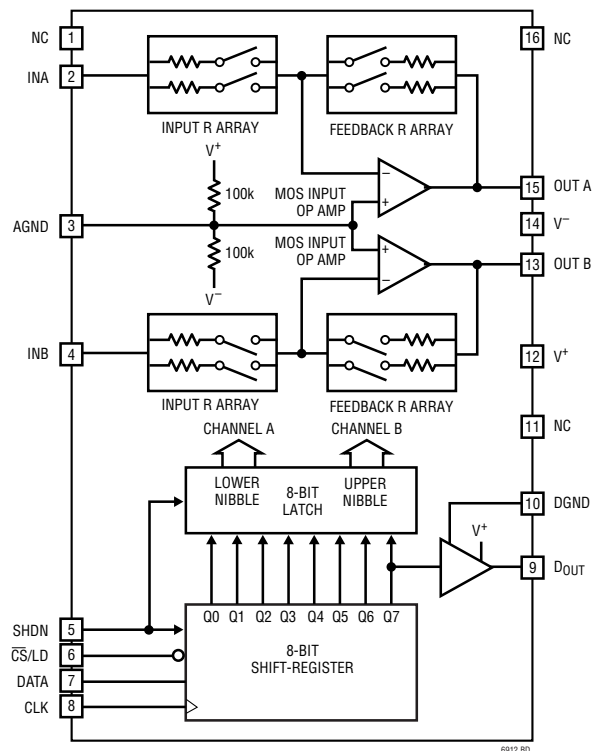
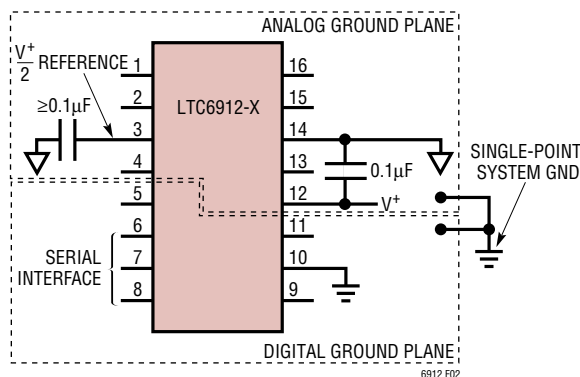
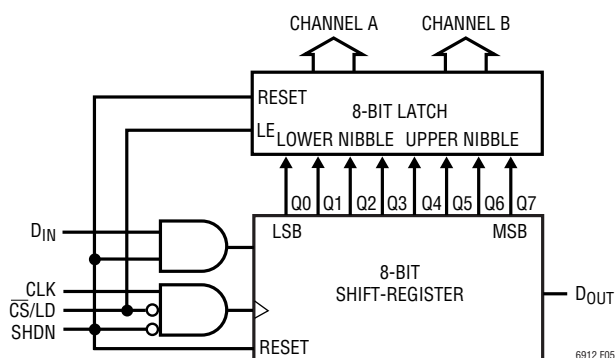

Figure 1. GN-16 Block Diagram
Figure 2. Single Supply Ground Plane Connection
Figure 5. Serial Digital Interface Block Diagram
**INA, INB:** Analog Inputs. The input signal to the A channel amplifier of the LTC6912-X is the voltage difference between the INA pin and AGND pin. Likewise, the input signal to the B channel amplifier of the LTC6912-X is the voltage difference between the INB pin and AGND pin. The INA (or INB) pin connects internally to a digitally controlled resistance whose other end is a current summing point at the same potential as the AGND pin (Figure 1). At unity gain, the value of this input resistance is approximately 10kΩ and the INA (or INB) pin voltage range is rail-to-rail ( $V^+$  to  $V^-$ ). At gain settings above unity, the input resistance falls. The linear input range at INA and INB also falls inversely proportional to the programmed gain. Tables 1 and 2 summarize this behavior. The higher gains are designed to boost lower level signals with good noise performance. In the “zero” gain state (state = 0), or in software shutdown (state = 8) analog switches disconnect the INA or INB pin internally and this pin presents a very high input resistance. In the “zero” gain state (state = 0), the input may vary from rail to rail but the output is insensitive to it and is forced to the AGND potential. Circuitry driving the INA and INB pins must consider the LTC6912-X’s input resistance, its process variance, and the variation of this resistance from gain setting to gain setting. Signal sources with significant output resistance may introduce a gain error as the source’s output resistance and the LTC6912-X’s input resistance forms a voltage divider. This is especially true at higher gain settings where the input resistance is the lowest.
**AGND:** Analog Ground. The AGND pin is at the midpoint of an internal resistive voltage divider, developing a potential halfway between the  $V^+$  and  $V^-$  pins. In normal operation, the AGND pin has an equivalent input resistance of nominally 50k (Figure 1). In order to reduce the quiescent supply current in hardware shutdown (SHDN pin pulled to  $V^+$ , GN-16 only), the equivalent series resistance of this pin significantly increases (to a value on the order of 800k $\Omega$  with 5V supplies, but is highly supply voltage, temperature, and process dependent). AGND is the noninverting input to both the internal channel A and channel B amplifiers. This makes AGND the ground reference voltage for the INA, INB, OUTA, and OUTB pins. Recommended analog ground plane connection depends on how power is applied to the LTC6912-X (See Figures 2, 3, and 4). Single power supply applications typically use  $V^-$  for the system signal ground. The analog ground plane in single-supply applications should therefore tie to  $V^-$ , and the AGND pin should be bypassed to this ground plane by a high quality capacitor of at least 0.1 $\mu$ F (Figure 2). The AGND pin provides an internal analog reference voltage at half the  $V^+$  supply voltage. Dual supply applications with symmetrical supplies (such as  $\pm 5$ V) have a natural system ground plane potential of zero volts, in which the AGND pin can be directly tied to, making the zero volt ground plane the input and output reference voltage for the LTC6912-X (Figure 3). Finally, if dual asymmetrical power supplies are used, the supply ground is still the natural ground plane voltage. To maximize signal swing capability with an
asymmetrical supply, however, it is often desirable to refer the LTC6912-X's analog input and output to a voltage equidistant from the two supply rails  $V^+$  and  $V^-$ . The AGND pin will provide such a potential when open-circuited and bypassed with a capacitor (Figure 4). In noise sensitive applications where AGND does not tie directly to a ground plane, as in Figures 2 and 4, it is important to AC-bypass the AGND pin. Otherwise channel to channel isolation is degraded, and wideband noise will enter the signal path from the thermal noise of the internal voltage divider resistors which present a Thévenin equivalent resistance of approximately 50k $\Omega$ . This noise can reduce SNR by at least 15dB at high gain settings. An external capacitor from AGND to the ground plane, whose impedance is well below 50k $\Omega$  at frequencies of interest, will filter and suppress this noise. A 0.1 $\mu$ F high quality capacitor is effective for frequencies down to 1kHz. Larger capacitors will extend this suppression to lower frequencies. This issue does not arise in dual supply applications because the AGND pin ties directly to ground. In applications requiring an analog ground reference other than half the total supply voltage, the user can override the built-in analog ground reference by tying the AGND pin to a reference voltage with the AGND voltage range specified in the Electrical Characteristics Table. The AGND pin will load the external reference with approximately 50k $\Omega$  returned to the half-supply potential. AGND should still be capacitively bypassed to a ground plane as noted above. Do not connect the AGND pin to the  $V^-$  pin.
**DGND:** Digital Ground: The DGND pin defines the potential from which LOGIC levels  $V_{\text{IH}}$  and  $V_{\text{IL}}$  for the 3-wire serial digital interface are referenced. The recommended connection of DGND depends on how power is applied to the LTC6912 (See Figures 2, 3, and 4). (CAVEAT: Under no conditions is DGND to exceed either supply pins  $V^+$  and  $V^-$ , which could result in damage to the IC if not current limited.)
Single power supply applications typically use  $V^-$  for the system signal ground. The preferred connection for DGND is therefore  $V^-$  (See Figure 2).
The LTC6912-X is a small outline, wideband, inverting two-channel amplifier with voltage gains that are independently programmable. Each delivers a choice of eight voltage gains, configurable through a 3-wire serial digital interface, which accepts TTL or CMOS logic levels (See Figure 5). Tables 1 and 2 list the nominal gains for the LTC6912-1 and LTC6912-2 respectively. Gain control within the amplifier occurs by switching resistors from a matched array in or out of a closed-loop op amp circuit using MOS analog switches (Figure 1). The bandwidths of the individual amplifiers depend on gain setting. The Typical Performance Characteristics section shows measured frequency responses.
Gain control of each amplifier is independently programmable using the 3-wire SPI interface (see Figure 5). Logic levels for the LTC6912 3-wire serial interface are TTL/CMOS compatible. When  $\overline{CS/LD}$  is low, the serial data on  $D_{IN}$  is shifted into an 8-bit shift-register on the rising edge of the clock, with the MSB transferred first. Serial data on  $D_{OUT}$  is shifted out on the clock's falling edge. A rising edge on  $\overline{CS/LD}$  will latch the shift-register's contents into an 8-bit D-latch and disable the clock internally on the IC. The upper nibble of the D-latch (4 most significant bits), configure the gain for the B-channel amplifier. The lower nibble of the D-latch (4 least significant bits), configures the gain for the A-channel amplifier. Tables 1 and 2 detail the nominal gains and respective gain codes. Care must be taken to ensure  $CLK$  is taken low before  $\overline{CS/LD}$  is pulled low to avoid an extra internal clock pulse to the input of the 8-bit shift-register (See Figure 5).
The electrical tables list DC offset (error),  $V_{OS(OA)}$ , at the inputs of the internal op amp (See Figure 1). The electrical tables also show the resulting, gain dependent offset voltage referred to the INA, or INB pins,  $V_{OS(IN)}$ . The two measures are related through the feedback/input resistor ratio, which equals the nominal gain-magnitude setting,  $|GAIN|$ :
Offset voltages at any gain setting can be inferred from this relationship. For example, an internal amplifier offset  $V_{OS(OA)}$  of 1mV will appear referred to the INA, INB pins as 2mV at a gain setting of 1, or 1.5mV at a gain setting of 2. At high gains,  $V_{OS(IN)}$  approaches  $V_{OS(OA)}$ . (Offset voltage is random and can have either polarity centered on 0V). The MOS input circuitry of the internal op amp in Figure 1 draws negligible input currents (less than 10 $\mu$ A), so only  $V_{OS(OA)}$  and the GAIN affect the overall amplifier's offset.